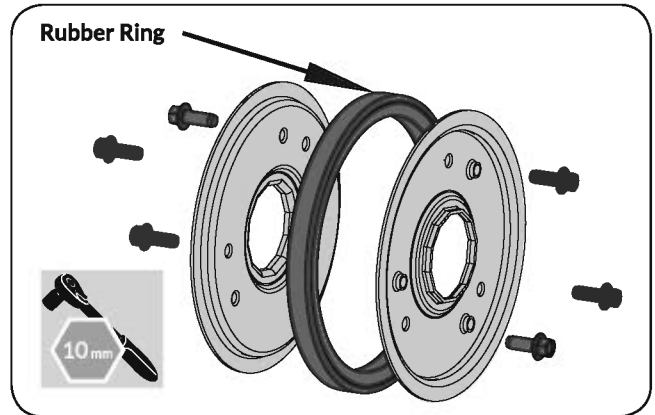

Figure 22e
1. Remove the six screws which secure the friction wheel's side plates together. (See **Figure 22e**)